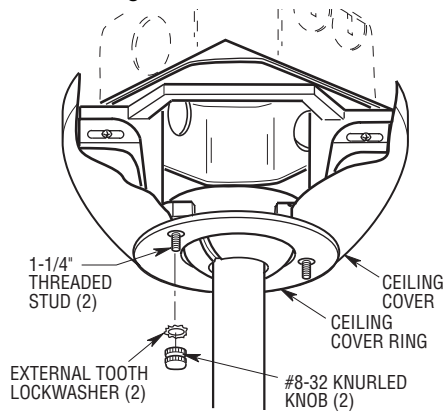

Figure 18
- 2. Screw the two 1-1/4" threaded studs (supplied) into the tapped holes in the hanger bracket (Figure 18).
- 3. Lift the ceiling cover up to the threaded studs and turn until the studs protrude through the holes in the ceiling cover (Figure 18).
- 4. Position the ceiling cover ring onto the threaded studs and secure both the ceiling cover and ring in place by sliding lockwashers (supplied) over the threaded studs and installing the two knurled knobs (supplied). (Figure 18). Tighten the knurled knobs securely until the ceiling cover fits snugly against the ceiling.